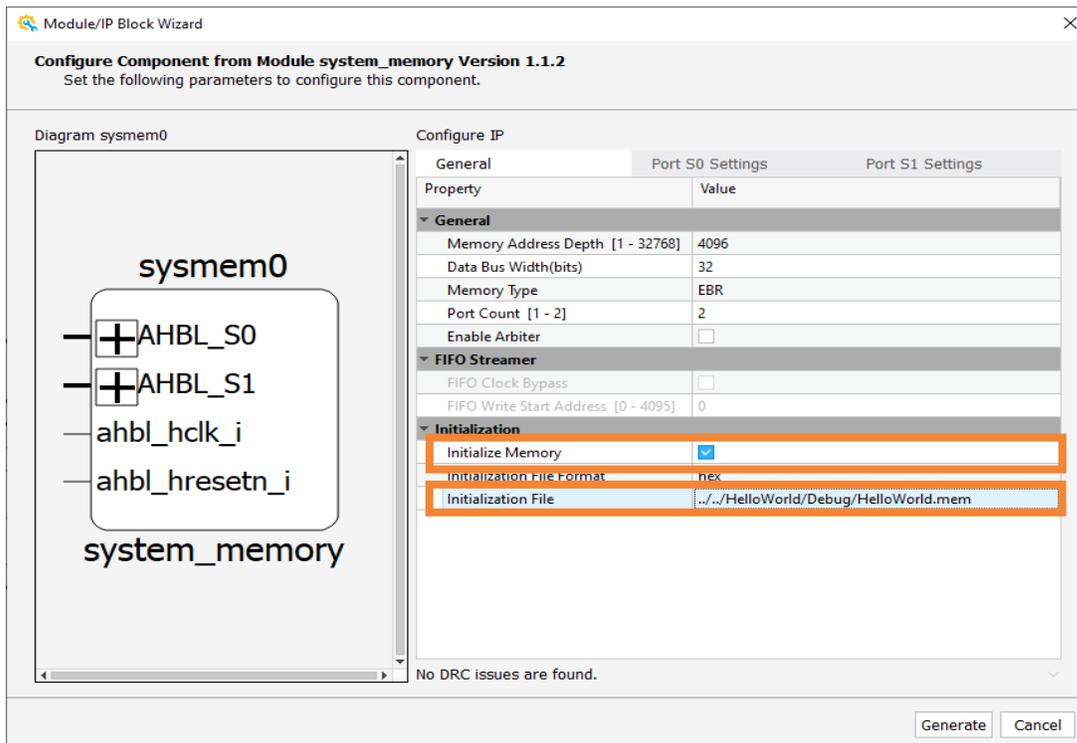

Figure 4.5. Configure Module System Memory
- (Optional) In Propel Builder, update the SoC design to set the preloaded software. Enable the checkbox for **Initialize Memory** for system_memory IP module from the **Initialization** area of the **General** tab, and set **Initialization File** (Figure 4.5) generated from the corresponding Hello World C project in the Creating Hello World C Project section.